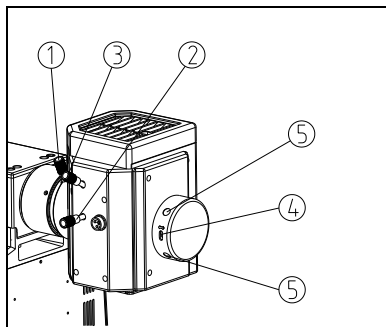

Fig.41
(1) Install the centering objective into the nosepiece to move the centering objective into light path, and turn the frosted glass to the operating position. (See Fig.41)
(2) Move the fluorescence filter block B1 into the light path.
(3) Open the field diaphragm and aperture diaphragm to the largest.
(4) Adjust the condenser adjusting pole ①, the vertical adjusting screw ② of mercury lamp, and the horizontal adjusting screw ③ of mercury lamp to make the filament image projected on the “+” scale of the centering objective. (Fig. 41, 42a)
(5) Adjust the focusing screw ④ of reflecting lens and the centering screw ⑤, to make the reflected image projected on the “+” scale of the centering objective. (Fig. 41, 42b)
(6) Adjust the centering screw ⑤ to make the filament image and reflected image symmetry to the “+” scale of the centering objective. Adjust the focusing screw ④ to make both images with same size. (Fig. 41, 42c)
(7) Adjust the vertical adjusting screw ② of mercury lamp, and the horizontal adjusting screw ③ of mercury lamp to make the two images superposition to the center of “+” scale. (Fig. 41, 42d)
(8) Screw down the centering objective, install the fluorescence objective, and move the 10X objective into the light path. With the fluorescence filter block B1, set the slide on the stage, and rotate the coarse focusing knob to find the image. Then rotate the fine focusing knob to make the image be clear.
(9) Observe through eyepieces and adjust the condenser adjusting pole ① to make the field of view to reach the normal brightness, then lock the knob.